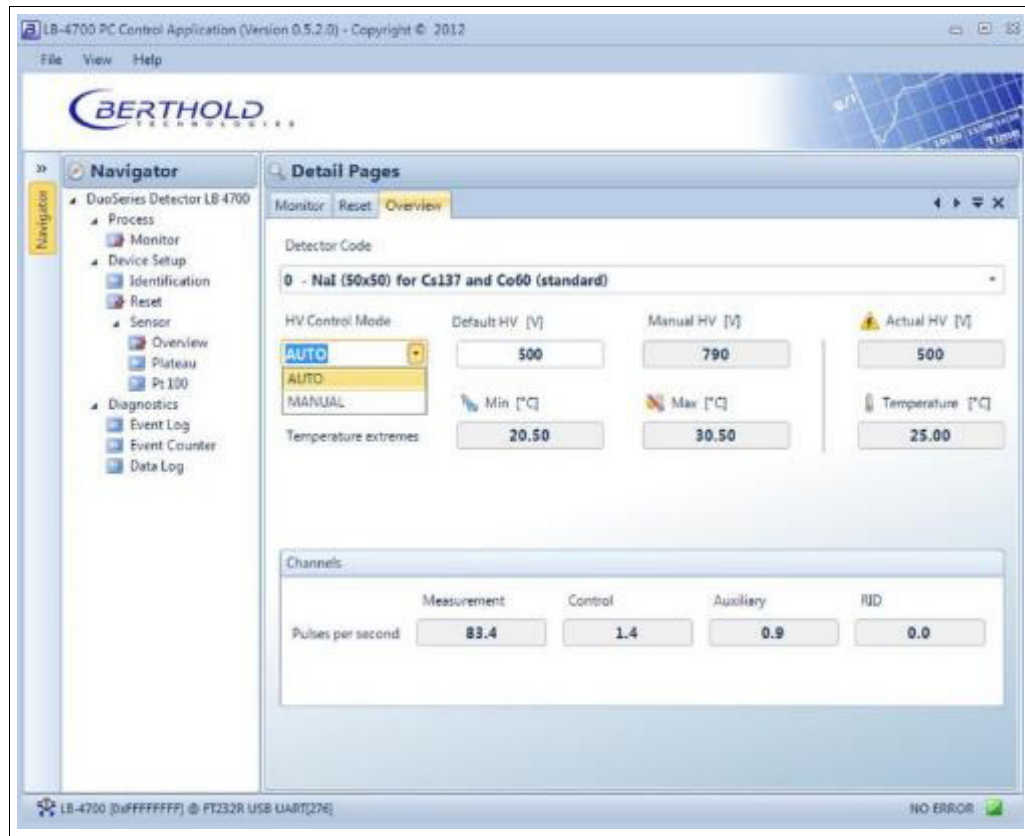

Fig. 38 Device Setup | Sensor | Overview | HV Control Mode
Open the submenu Overview in the menu group Device Setup | Sensor of the navigator by double-clicking on <Overview> (Fig. 38). You can select the detector code and set preferences for high voltage control here.
Click on the arrow button (Fig. 38, item 1) in order to set the desired detector code.
Click on the selection arrow (Fig. 38, item 2) in order to set the desired HV mode (auto or manual).
The high voltage is maintained at a fixed, user-entered value (manual HV, Fig. 38, item 9).
Click in the input field "Default HV" (Fig. 38, item 10) in order to enter the desired starting value for the high voltage control.